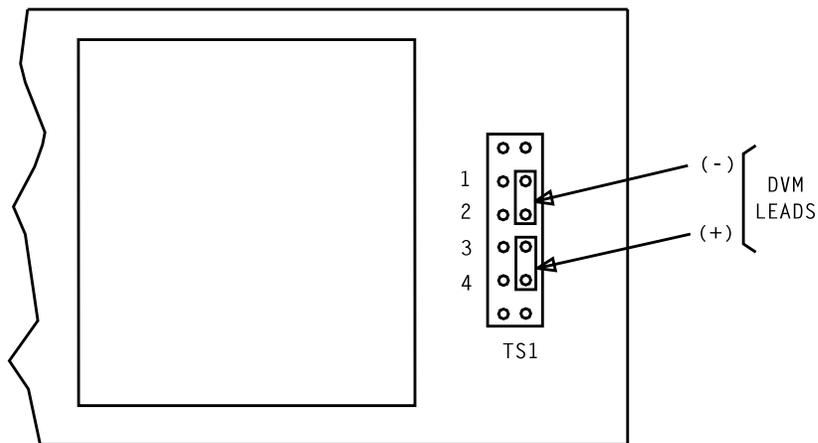

Figure 1. DVM Connection Location
4. At the back of the standby API frame, connect the common (-) lead of the DVM to the terminal strip (**TS1**) per Figure 1.